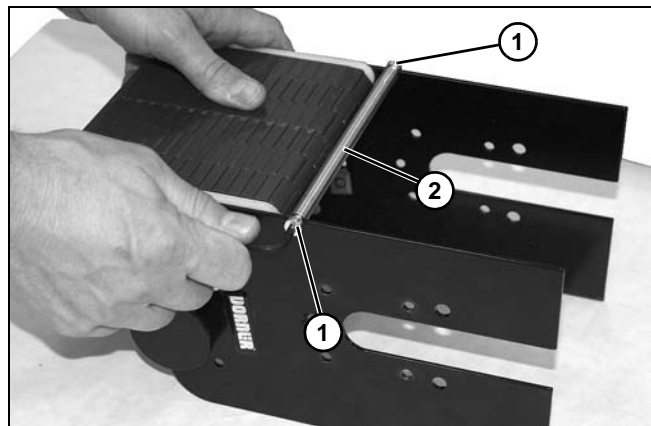

Figure 119
11. Loosen socket head screw (Figure 119, item 1) on rod (Figure 119, item 2) each side of transfer tail. Remove rod.